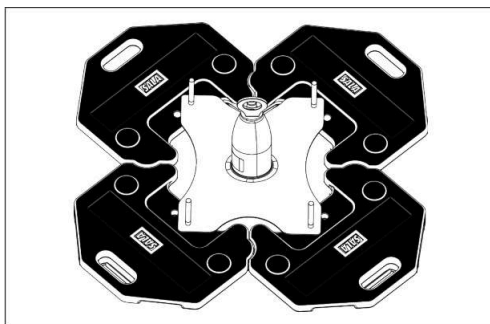

Figure 5
- Install the LEAP Anchor to ensure the L-bolts are oriented correctly and the D-ring on the LEAP Anchor will face the desired direction when installation is complete. See Figure 5 .